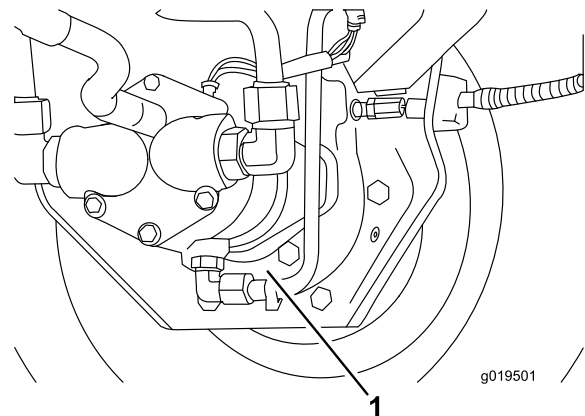

Figure 68
3. Place a drain pan under the brake housing, remove the drain plug and allow the oil to drain (Figure 68).